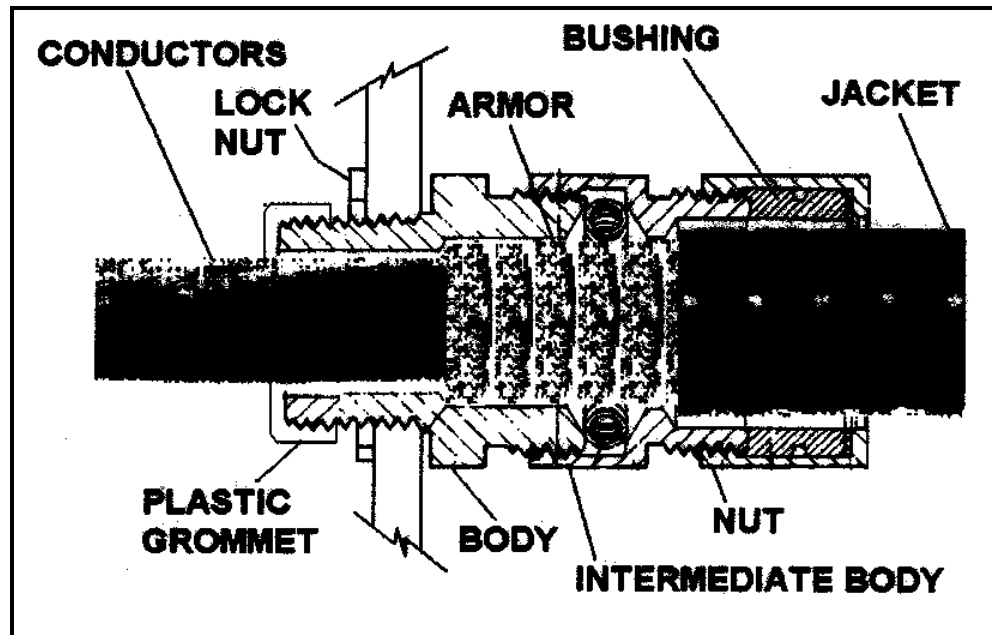

Figure 19. Installed connector and cable
- c. Complete instructions for use of the supplied Crouse-Hinds cable fittings are included in the Appendix, pp 9-10. **DO NOT DISASSEMBLE THE FITTING.** **Figure 19** below shows the proper position of the cable elements in the fitting. It is best to install the connector on the cable first, then install the assembly into the junction box. Insert prepared cable into the fitting until armor rests against armor stop. (If conductors are too large to fit through the non-metallic armor-stop reducer, remove it using a screw driver.) **THE METALLIC ARMOR MUST NOT GO BEYOND THE ARMOR STOP.** Tighten both the intermediate body and the nut to 500 in-lb (42 ft-lb). Insert the fitting, through the large off-center hole in the tower top plate, into the bottom of the terminal block area. Add the electrical locknut and tighten securely. **INSTALL THE PLASTIC INSULATING GROMMET!** The grommet is required to avoid chafing and, eventually, short circuits in the tower wiring.